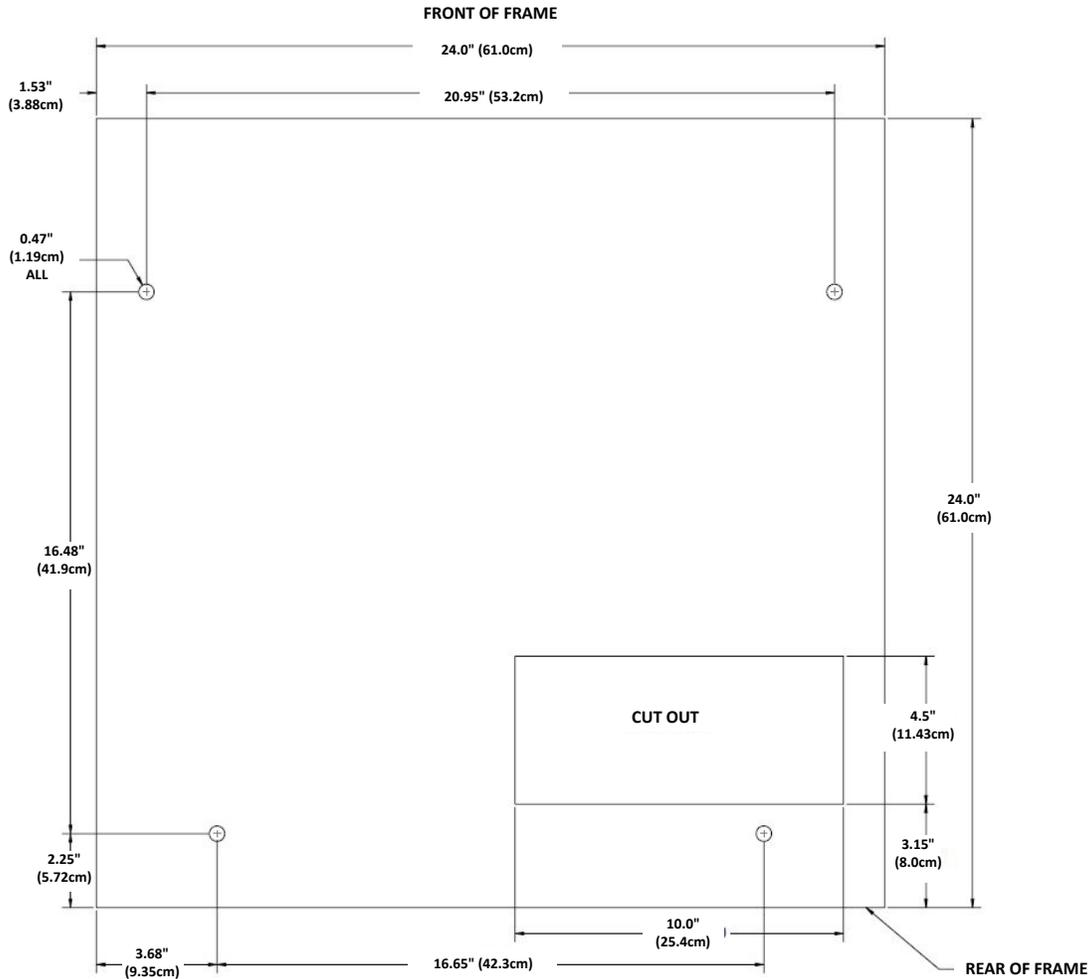

Figure 8
- b. Perform the tile cut as shown in figure 8.